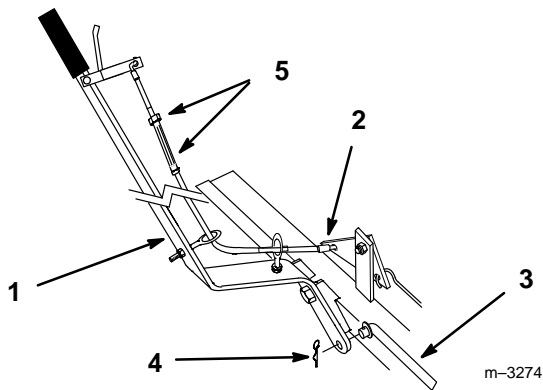

Figure 4
4. With index handle vertical attach cable Z end to back hole of triangle index plate (Fig. 4).
5. Attach control rod (end with welded washer) to index handle and secure with large hairpin cotter (Fig. 4).
6. Move index lever to center position and adjust cable turnbuckle so the index pin is pulled out of channel when the release lever is squeezed and blade moves side-to-side when lever is pushed and pulled (Fig. 4).
7. Remove hairpin cotter securing control rod to index handle, rotate handle rearward next to frame (Fig. 4).